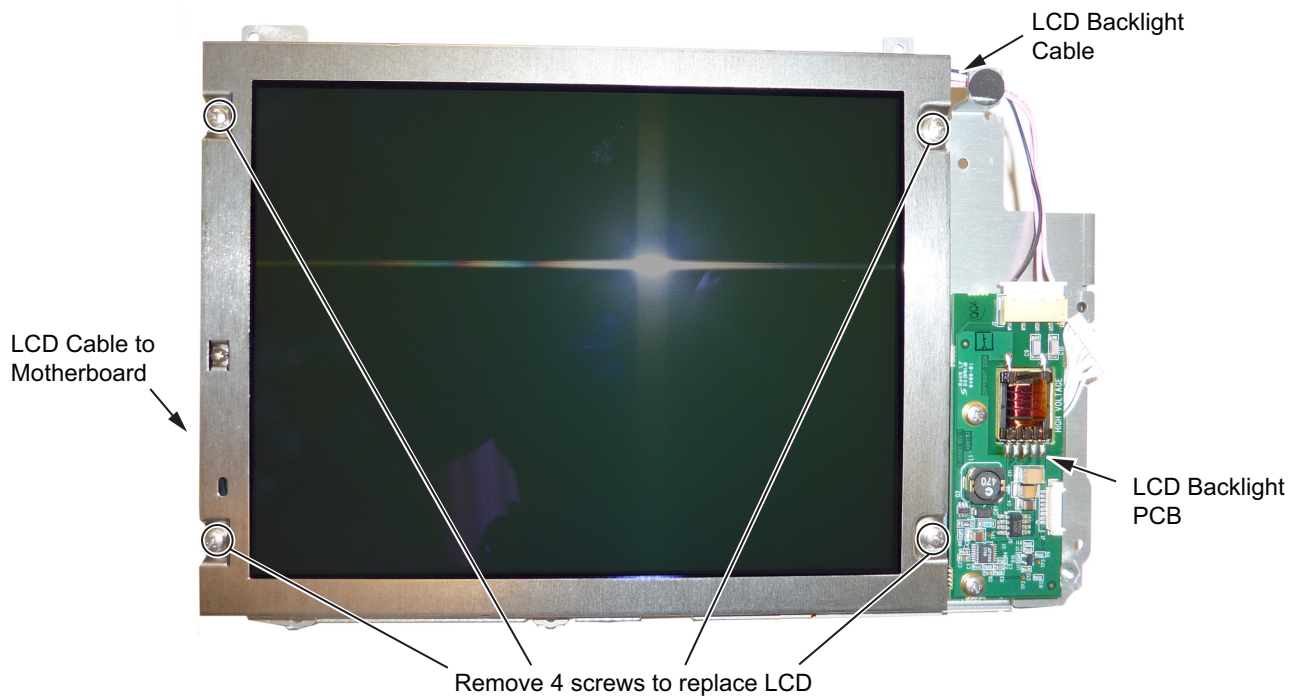

Figure 5-14. Replacing the LCD
5. Use a Phillips screwdriver to remove the four screws securing the LCD to the housing (Figure 5-14).